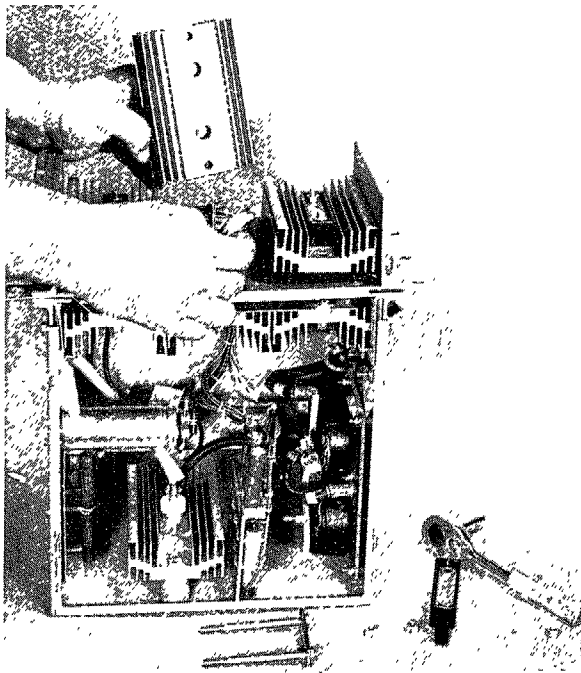

FIGURE 16
7. Remove the two clamp nuts that secure the defective SCR, while supporting the bottom heatsink and clamp with one hand underneath the heatsink assembly. See Fig. 16.